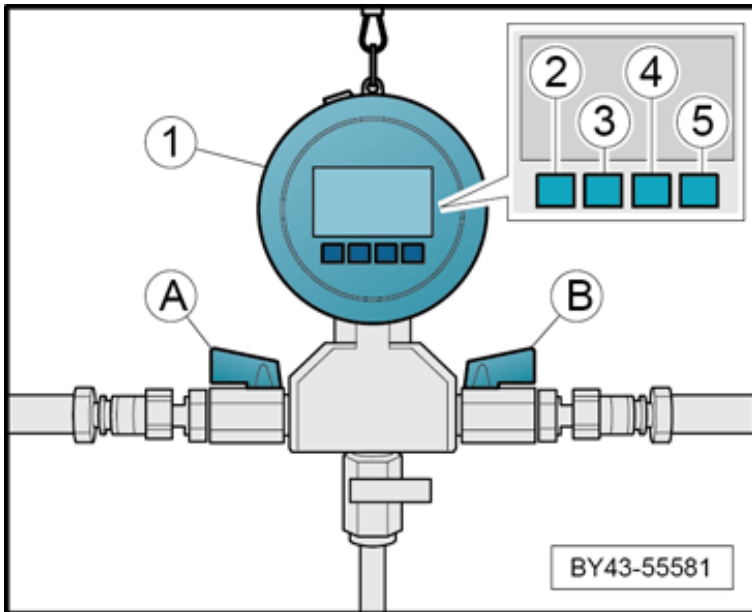

Figure 9
These checks should be carried out in conjunction with the ElsaPro procedure “Air suspension – To check” with the use of the special tool “Air suspension leak tester VAS 751 001” shown in Figure 9 as item (1). Refer to ElsaPro, Repair Group 43, “Air suspension – To check”.